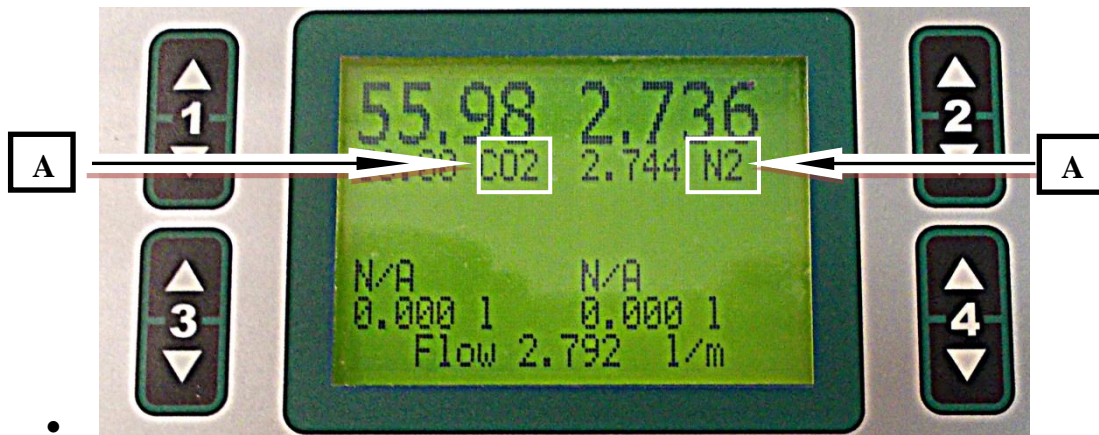

Fig. 10 Gas Type
- In some Gas Mixing Units, the valve control keys on the front panel are not labelled with the particular gas type. Instead, labels Valve 1 – 4 are used and gas type can be shown on display (see the picture below, Fig. 10). To display the gas type on the screen → Press “S” key (below the digital display) to switch from the **Display & Control Screen** to the **Setting Screen**. Use \updownarrow keys for moving in menu and press “S” key on option **Gases** → **ValveX**.